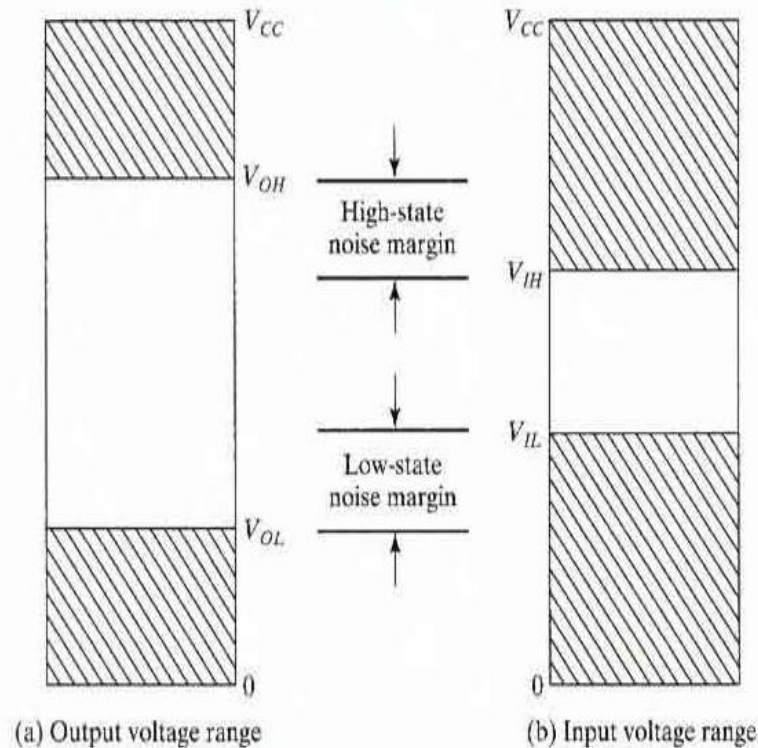

Fig 3. Signals for evaluating noise margin
- Noise margin expressed in Volts and represents the maximum noise signal that can be tolerated by the gate shown in figure 3